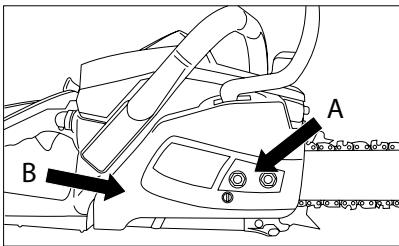

Fig. 5
3. Unscrew the two nuts (A) securing the bar and chain guard. Remove the protective cover together with the chain brake shield (B) (fig. 5).